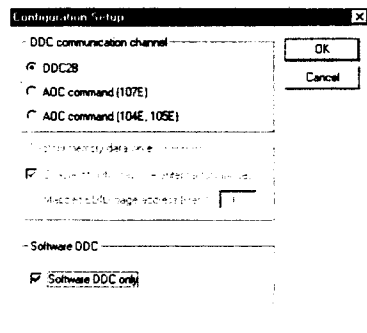

Fig. 12
- 1-2 Click icon as shown in Fig. 11 from the tool bar to bring up the "Configuration Setup" windows as shown in Fig. 12.
2. Select the DDC2B as the communication channel. Select "Enable" & fill out "F0" for Mapped EDID page address as shown in Fig. 12.